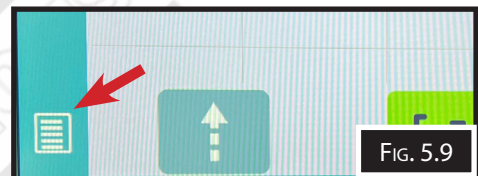

FIG. 5.9
2. Press MENU Button (Fig 5.9)